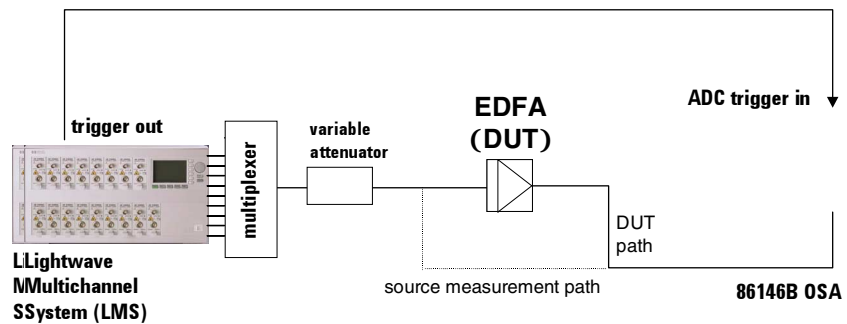

Figure 1-7. TDE setup for the patchcord configuration
As with ISS, there are two possible equipment configurations as in Figure 1-1 and Figure 1-2. The main difference is the trigger signal from the synchronously modulated source is required for the OSA. Figure 1-7 is the TDE setup for the patchcord configuration for source measurement.
If an additional mainframe is used, a BNC cable can connect its input trigger to the master mainframe. Then this mainframe's trigger configuration should be left on default and all modules set to modulate on the backplane. A BNC cable is required from the slave mainframe Input Trigger to the Output Trigger of the Master mainframe. Finally, as indicated on Figure 1-7, a BNC cable is required from the Source Trigger Out to the OSA ADC Trigger.
- 1 Connect the amplifier as shown in Figure 1-7.